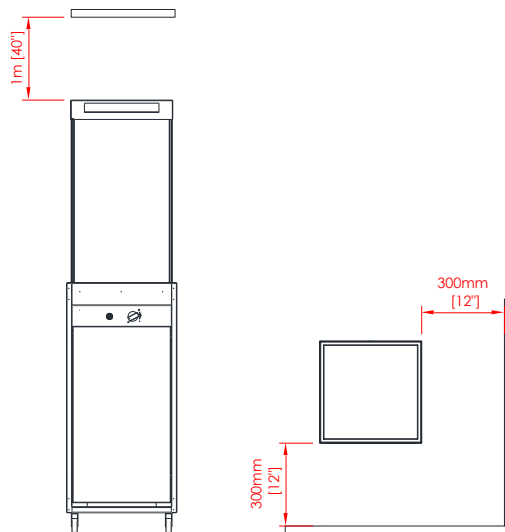

Fig 2 – Minimum distances
- This appliance must be kept away from flammable materials during use. Do not place any combustible materials within a distance of 0,3 m (12") of LIGHTHOUSE and 1 m (40") over the appliance (Fig 2).